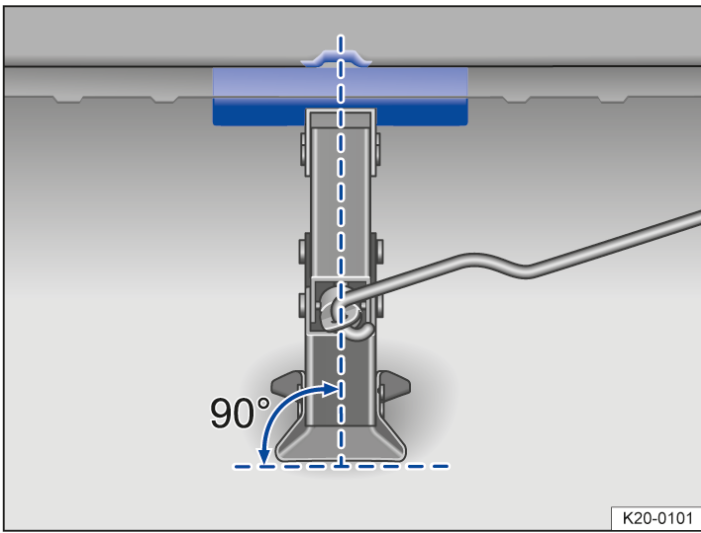
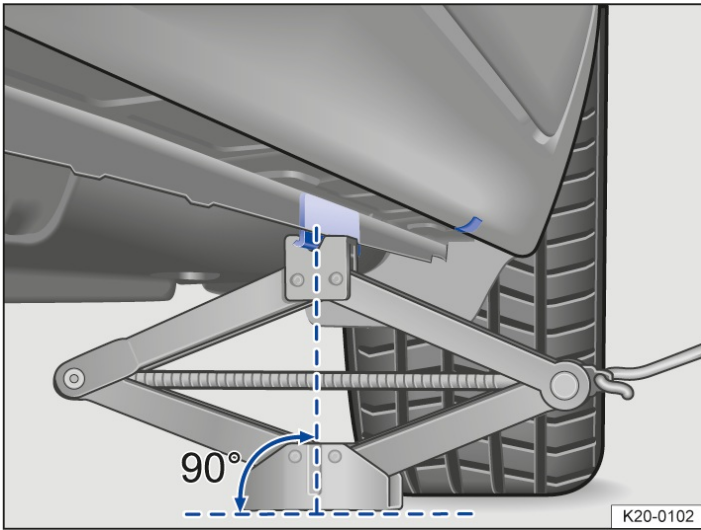
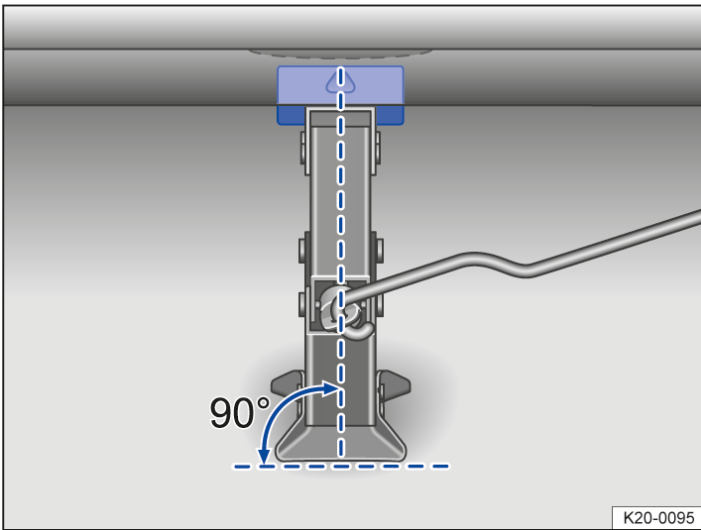
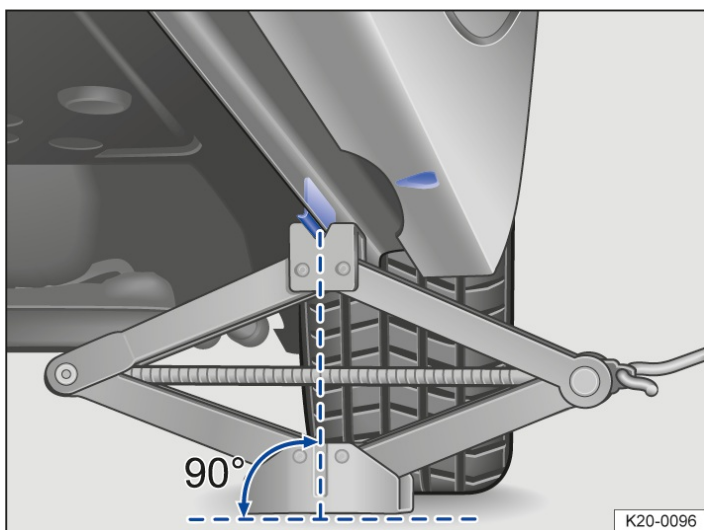

Fig. 3 Correct jack setup (variant 1).
Fig. 4 Jack positioned on the left side of the vehicle at the rear (variant 1).
Fig. 5 Correct jack setup (variant 2).
Fig. 6 Jack positioned on the left side of the vehicle at the rear (variant 2).
12. Make sure the entire base of the jack is seated securely on the ground and that the base of the jack is located exactly directly below the lift point → fig. 3 and → fig. 4 or → fig. 5 and → fig. 6.
13. Straighten out the vehicle jack and continue raising the bracket on the top of the jack until the bracket is positioned on the vehicle lift point under the vehicle → fig. 4 or → fig. 6.